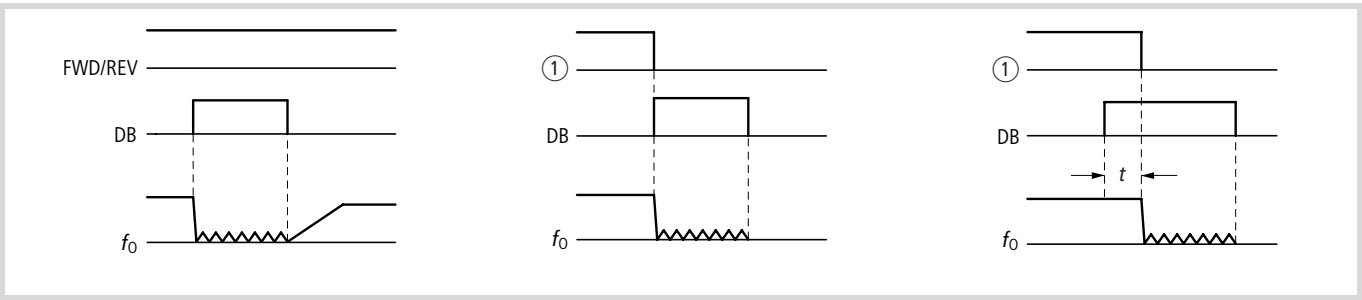

Figure 69: Function chart for DB (DC braking)
Through the use of the input configured as UP, the frequency setpoint in PNU A01 is also increased (→ Fig. 69).
① Start signal through keypad
- In PNU A53, enter a delay time  $t$  (→ Fig. 69) from 0 to 5.0 s, which is to expire before DC braking takes effect after activation of the DB input.